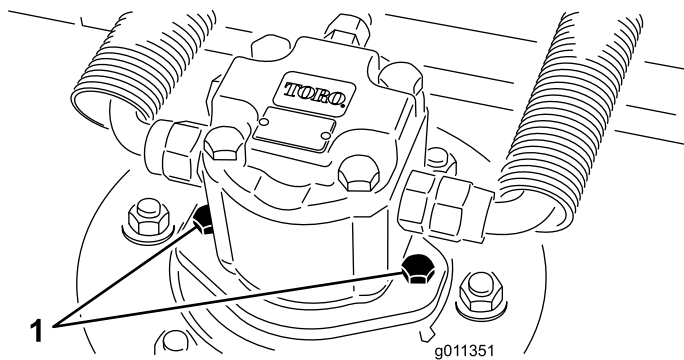

Figure 58
2. Disconnect and remove the hydraulic motor from the deck (Figure 58). Cover the top of the spindle to prevent contamination.
4. Install the hydraulic motor to the deck (Figure 58). Make sure that the O-ring is in position and not damaged.